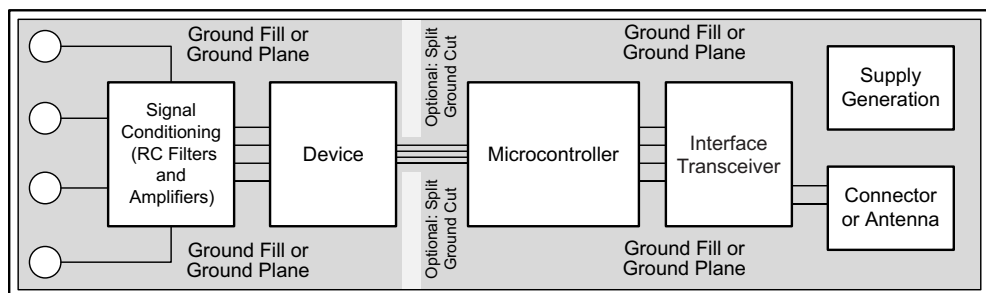

Figure 68. System Component Placement
TI recommends employing best design practices when laying out a printed-circuit board (PCB) for both analog and digital components. This recommendation generally means that the layout separates analog components (such as ADCs, amplifiers, references, digital-to-analog converters (DACs), and analog MUXs) from digital components (such as microcontrollers, complex programmable logic devices (CPLDs), field-programmable gate arrays (FPGAs), radio frequency (RF) transceivers, universal serial bus (USB) transceivers, and switching regulators). An example of good component placement is shown in Figure 68. Although Figure 68 provides a good example of component placement, the best placement for each application is unique to the geometries, components, and PCB fabrication capabilities employed. That is, there is no single layout that is perfect for every design and careful consideration must always be used when designing with any analog component.